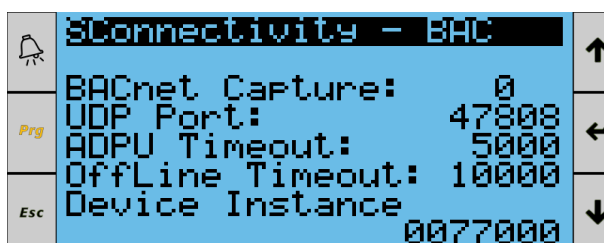
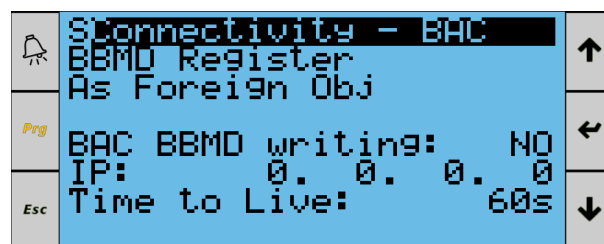

Figure 86. Settings Menu, Communications, BACnet, Page 1
Figure 87. Settings Menu, Communications, BACnet, Page 2
- Set appropriate parameters for BACnet BMS connectivity as shown in **Figure 86** and **Figure 87** below.